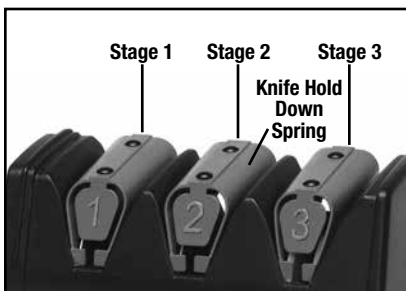

Figure 4. EdgeSelect® Sharpening Module.
The unique Chef'sChoice® EdgeSelect® Sharpening Module (Figure 4) supplied with the standard Model 2100 is designed so that you may sharpen each knife according to your intended use. This three (3) stage sharpener has two precision conical sharpening / honing stages with fine 100% diamond abrasives and one polishing/stropping stage using proprietary flexible abrasive disks. These stages can be used in different sequences to give you either an astonishingly sharp, smooth faceted edge for effortless cutting and presentations or one with a selected amount of residual "bite" along the facets. The resulting edge is ultrasharp and non-serrated. This residual "bite" is created by precisely polished microflutes that are formed on the facet surface by the ultrahoning action of the stropping disks in Stage 3. You will find that these sharp flutes created on each side of the ultrasharp and non-serrated cutting edge aid substantially in those difficult cutting chores experienced with fibrous foods, meat, stalky vegetables and dressing of game.